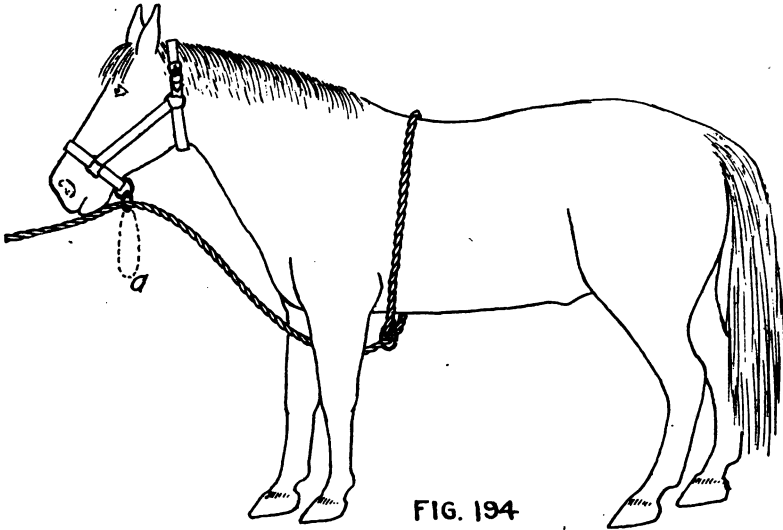

FIG. 194
**Leading or Tying.** A simple but effective method of using a rope for breaking a colt to lead is shown in fig. 194. A strong leather halter is placed on the colt's head. A long rope is procured and one end is passed around the body over the withers and just behind the front legs. It is well to have an iron ring in the end of the rope, or a loop tied with a bowline knot (figs. 25 to 28) so that the loop which passes around the body will loosen as soon as the tie rope is slacked. (A ring is best.) Pass the rope through this ring or loop, then between the front legs and over the chin piece of the halter. When the rope is tightened the colt will usually lead up with but little resistance, and if he passes the person who is leading him the chin piece of the halter acts as a pulley and his head is drawn around to the side.